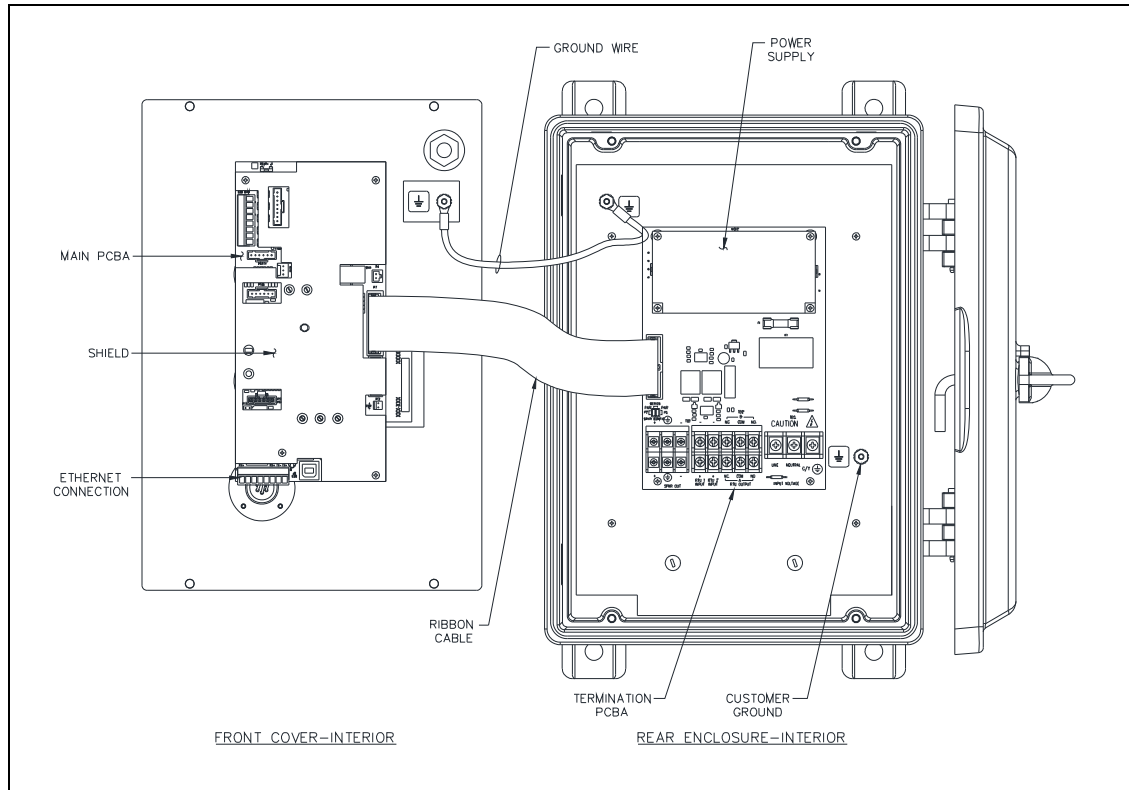

Figure 3. weatherproof SP2 Station—Interior View
2. Secure it to the ground terminal, located in the lower right corner, at the back of the rear enclosure (see Figure 3).